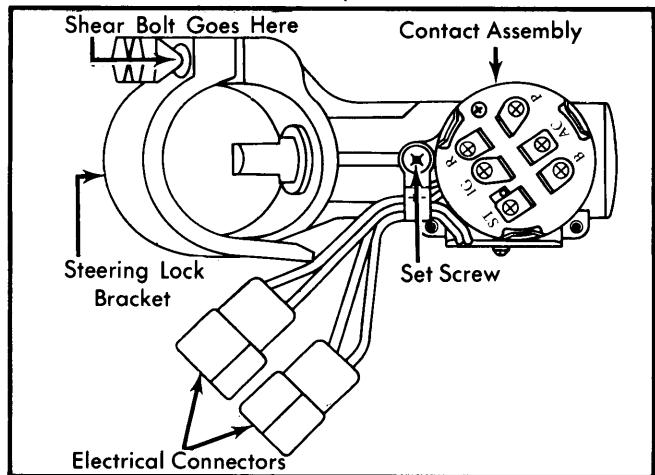

Fig. 2 RX4 and Cosmo Ignition Switch Contact Housing
**Removal; RX4 & Cosmo** — Remove steering wheel as previously outlined. Remove column shrouding. Remove combination switch. Disconnect electrical connector. Remove screw attaching switch contact (See Fig. 2) housing to steering lock body and slide out contact housing.